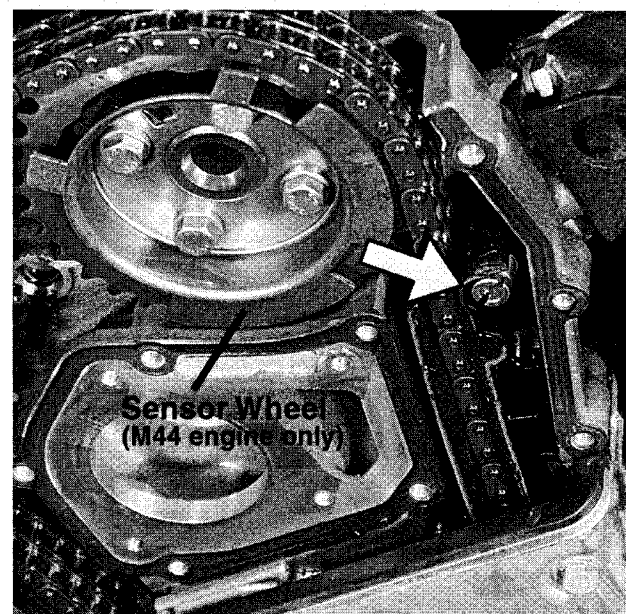

Fig. 14. Chain guide and guide adjusting sleeve (arrow). Allen-head retaining screw has been removed. Use slotted screwdriver to loosen adjusting sleeve.
30. Remove upper bolt from left chain guide. Loosen chain guide adjusting sleeve approximately two turns. See Fig. 14.
- Turn left chain guide adjusting sleeve in until it just contacts the cylinder head (See Fig. 14.). Insert chain guide retaining screw and tighten.